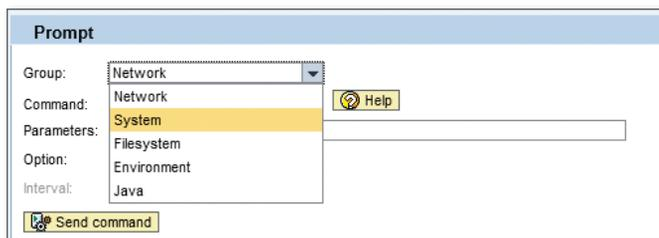

Figure 4.4 OS Command Console—Groups
4. In the PROMPT area, you can select the type of commands to be executed. However, you can select only those that have been pre-assigned. The commands vary depending on the operating system. To provide a better overview, the operating system commands are grouped according to topics, which you can select in the GROUP field (see Figure 4.4).